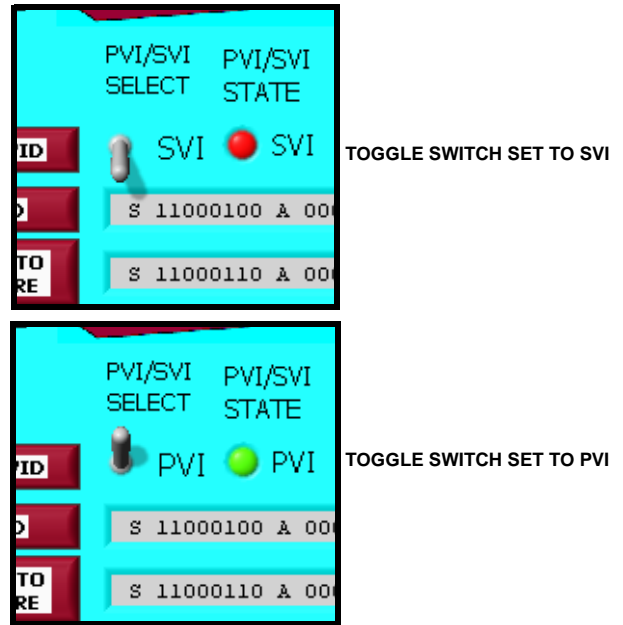

FIGURE 29. SVI/PVI TOGGLE SWITCH
2. If testing the evaluation board in SVI mode is desired, make sure the SVI toggle switch is in the SVI position. If testing the evaluation board in PVI mode is desired, the toggle switch needs to be in the PVI position. Click on the switch to change its position. See Figure 29.